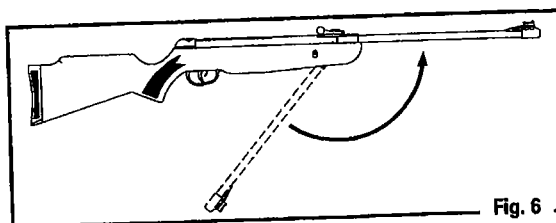

Fig. 6
- Move the barrel back to its original position by pushing the barrel up until it locks (Fig. 6). Once again, be careful not to pinch your hands or fingers. Be sure the airgun is "ON SAFE" and pointed in a safe direction.